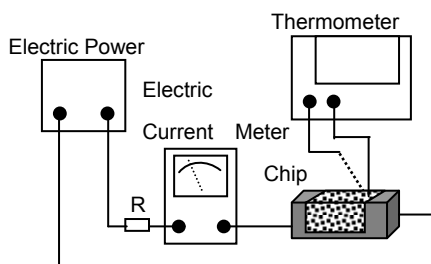

Fig. 5.3.5-1
- Definition of Rated Current(I_r): I_r is direct electric current as chip surface temperature rose just 20 against chip initial surface temperature(T_a) (see **Fig. 5.3.5-2**).